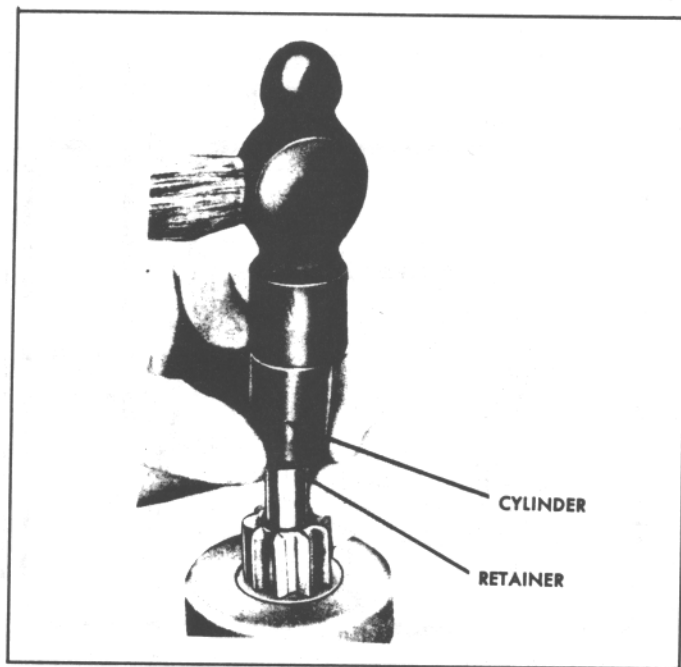

Fig. 138. Removing Retainer From Snap Ring.
6. Remove the pinion from the armature by sliding a metal cylinder onto the shaft; with a hammer striking the metal cylinder against the retainer, drive the retainer toward the armature core and off the snap ring (Fig. 138).